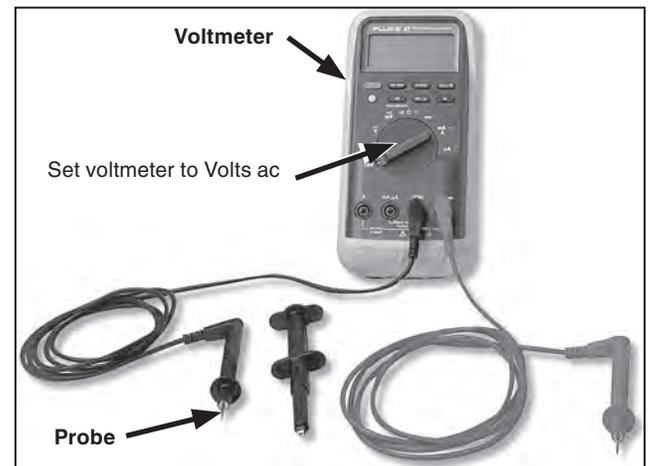

Figure 51. The high-impedance voltmeter and test probes.
STEP 2. Use a high-impedance voltmeter, as shown in Figure 51, to verify voltage is present and to determine the phase-to-ground voltage for each phase of the two ways to be phased as follows: